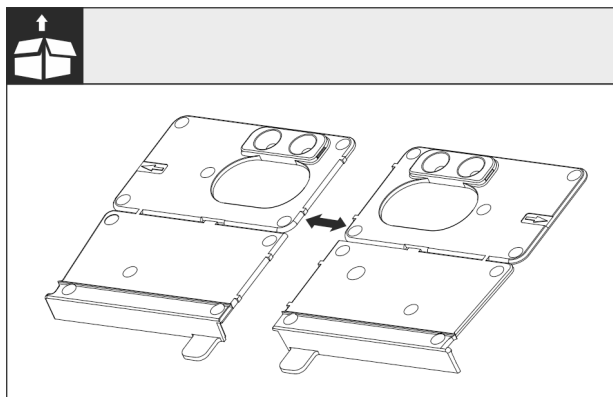

Fig. 27
- ▶ Separate the floor mounting bracket Fig. 27 () at the perforation.